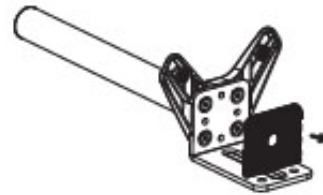

Figure 5
3. Remove the plastic cushion, see Figure 5, then remove the upper desk clamp from the aluminum base by removing the screws using a 4mm Allen Key, see Figure 6.